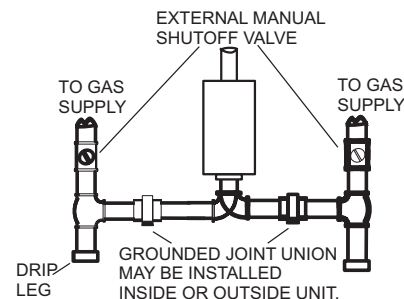

FIGURE 5: Gas Piping
***Should overheating occur, or the gas valve fail to shut off, turn the external manual gas valve in the gas supply line to the furnace to the "off" position and let the furnace cool off before shutting off the electrical power supply. Refer to Figures 5 & 6.***